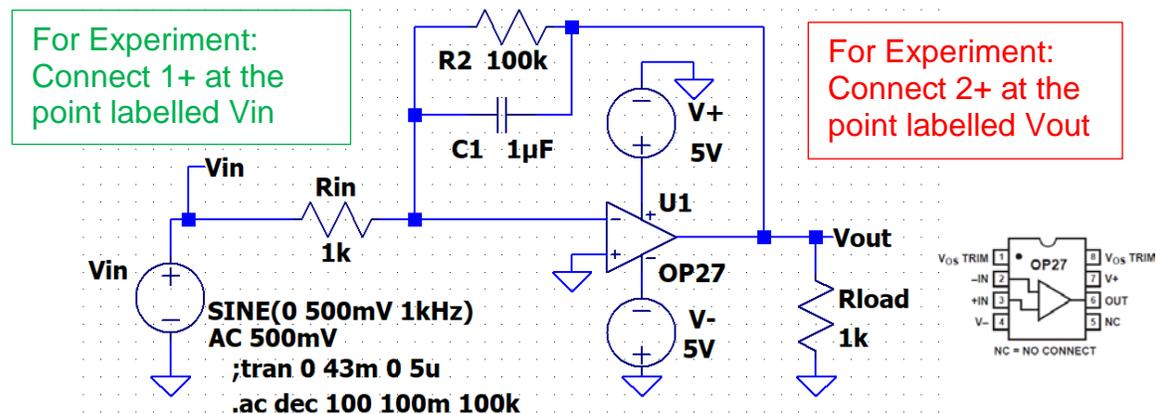

Figure C-3.
- In *LTspice* simulate the integration circuit shown below in Figure C-3. V1 should have a 500mV amplitude and 1kHz frequency.
- On your proto-board, build the op-amp integrator circuit as shown in Figure C-3 using the OP27 amplifier. Note that this circuit may not work with a uA741 op amp, R2 may need to be changed to a lower value.
- Obtain measurements of the input and output voltages at frequencies of 100Hz, 1kHz, and 5kHz. Add your experimental points for both the amplitude and phase to your *LTspice* AC analysis plot done for Figure C-3 simulation.